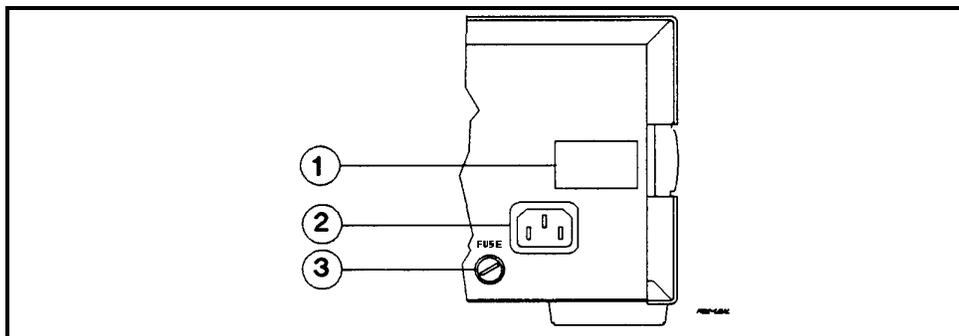

Figure 2-1. Agilent SAS Power Connection
The supplied cord connects to the power receptacle on the rear panel ( ②, Figure 2-1).
- You can operate your Agilent SAS from a nominal 100 V, 120 V, 220 V, 230 V, or 240 V single-phase ac line as indicated on the rear panel line **Rating** label ①.
- The line fuse is located in a fuseholder on the rear panel ③. The rear panel label shows the fuse value used in the unit. See Operator Replaceable Parts in chapter 1 for replacement fuse information.